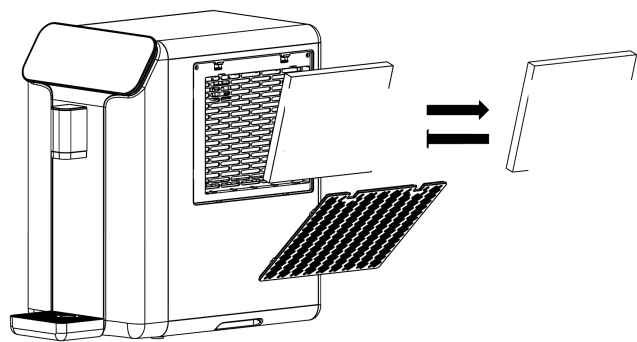

Figure 4 · Slide the old filter out and the new one in
3. Slide the old air filter out and slide the new one in (Figure 4).